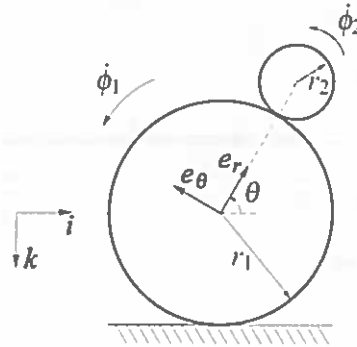

Figure 2.1 Self-balancing robot with two wheels.
2. A 2-wheeled self-balancing robot comprises a small uniform wheel of radius r_2 that rolls by an angle ϕ_2 without slipping on a large uniform wheel of radius r_1 under the influence of gravity, as shown in Figure 2.1; the small wheel is constrained to always touch the large wheel by a massless link (not shown) joining the centres of the two wheels. The large wheel rolls by an angle ϕ_1 without slipping on a horizontal surface, and the large wheel centre moves horizontally by a distance x . The mass and spin inertia of the large wheel are m_1 and I_1 respectively, and the corresponding quantities for the small wheel are m_2 and I_2 respectively. A control torque T_c is applied on the large wheel and reacts on earth.
A fixed Cartesian coordinate system with unit vectors i and k , and a moving Cartesian coordinate system with unit vectors e_r and e_θ (see Figure 2.1) are used to analyse the motion of the two wheels. The moving coordinate system has its origin at the centre of the large wheel and it rotates with the line joining the centres of the two wheels by an angle θ .